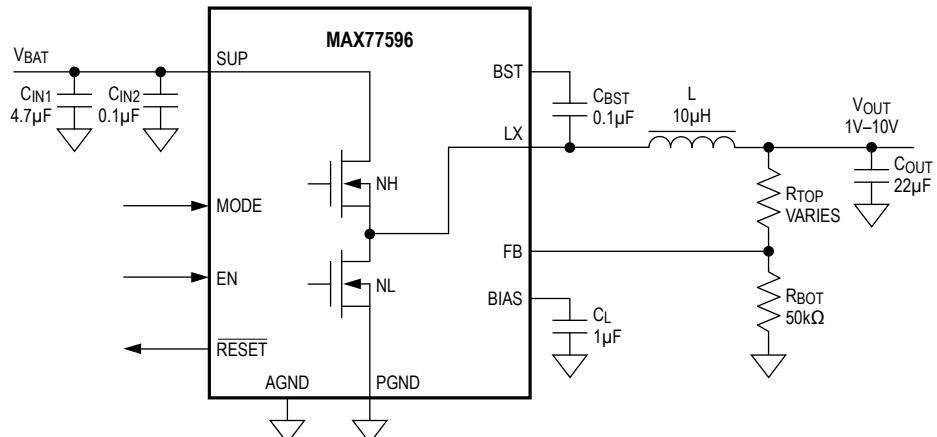

Figure 3. MAX77596ETBC+, Variable Output Voltage, 10-Pin TDFN
- 1) The input capacitor (4.7 μ F, see Figures 3 and 4) should be placed immediately next to the SUP pin of the device. Since the device operates at 1.7MHz switching frequency, this placement is critical for effective decoupling of high-frequency noise from the SUP pin.